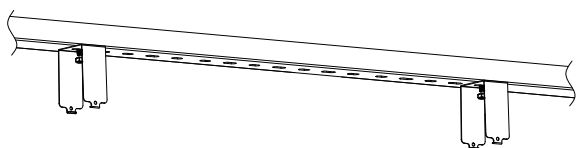

Figure 5
- Step1. Mount the bracket on the rail or ceiling (Figure 5);